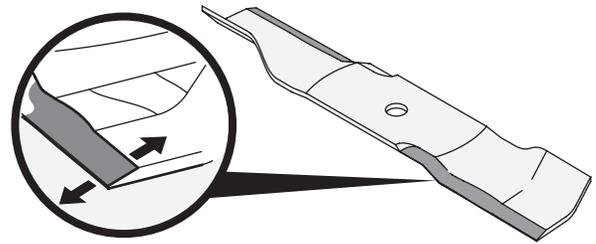

Figure 46
- To properly sharpen the cutting blades, remove equal amounts of metal from both ends of the blades along the cutting edges, parallel to the trailing edge, at a 25°-30° angle. Always grind each cutting blade edge equally to maintain proper blade balance (Figure 46).